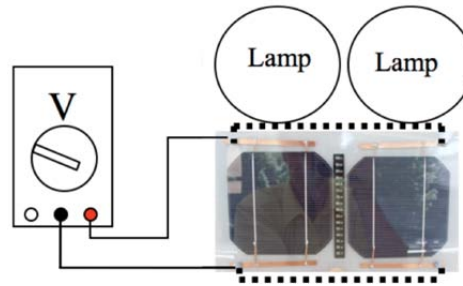

Fig. 2.4: Measuring open circuit voltage for two cells in parallel.
5. To measure **Open Circuit Voltage** produced by **2 Cells in Parallel**, replace the CURRENT meter with the VOLTMETER. Set the dial for 2 VDC and switch the red cable (see Fig. 2.4). **Measure** and **record** the voltage from the two cells connected in parallel.